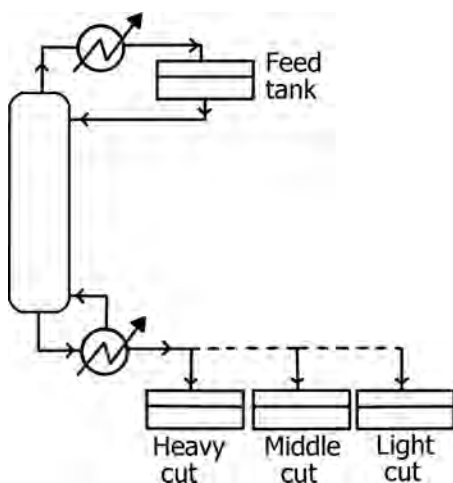

FIGURE 17.12 Inverted batch distillation.
- Figure 17.12 illustrates the process.